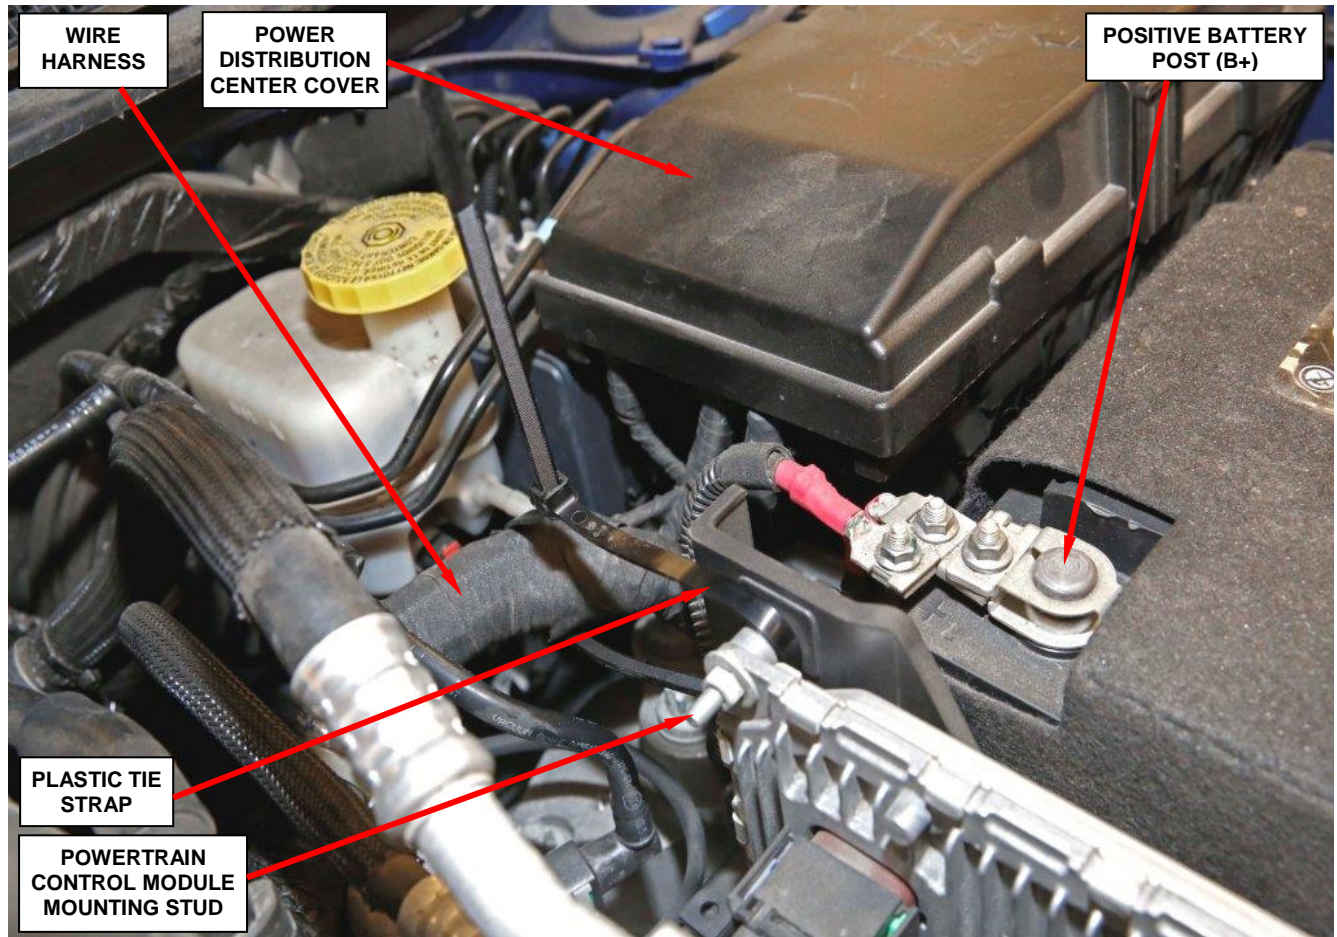

Figure 17 – Install a Plastic Tie Strap to Prevent Wire Harness from Sagging onto the Transaxle
29. Install a plastic tie strap as shown in Figure 17 to prevent the wire harness from sagging onto the transaxle.